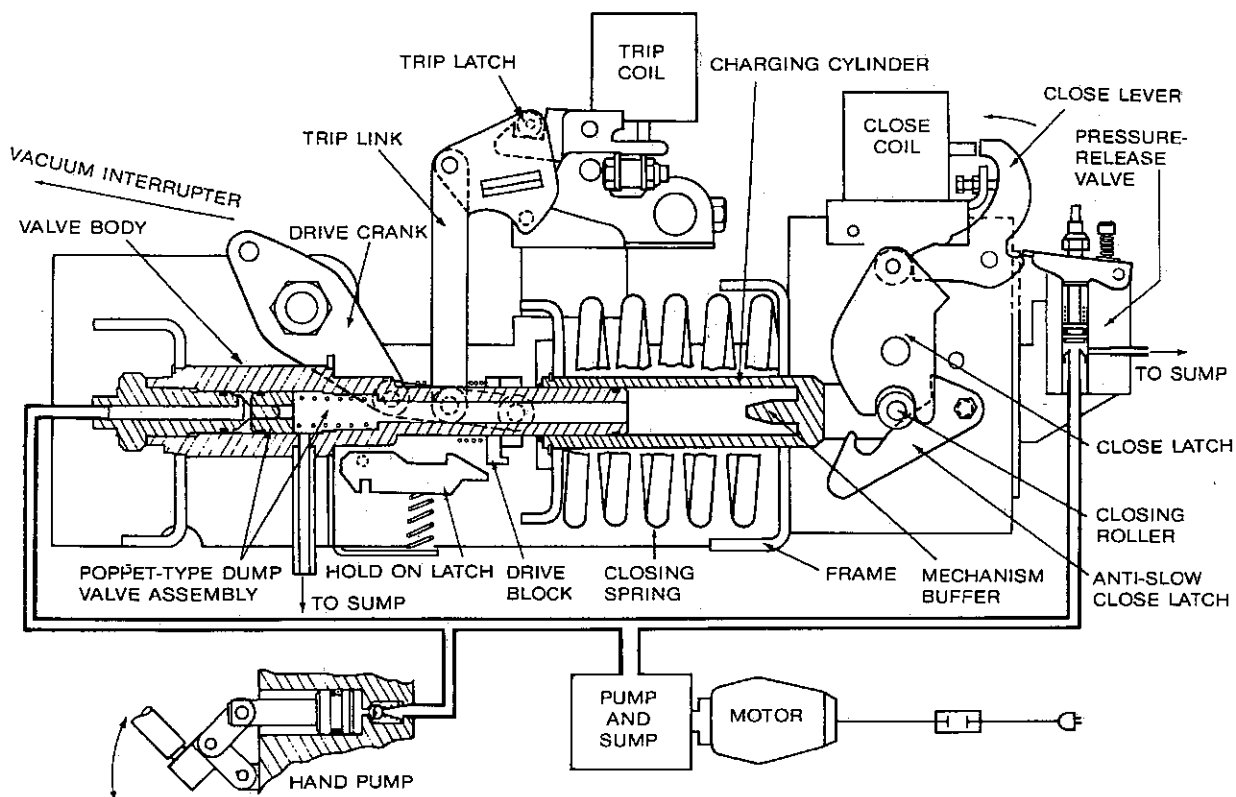

Figure 4.
3. Charging cycle continues until the close latch engages the closing roller. At this time through the mechanical linkage a motor cutoff switch interrupts the supply voltage to the motor, completing the charging sequence (Figure 4).
The breaker is now ready for a closing operation, Figure 4.